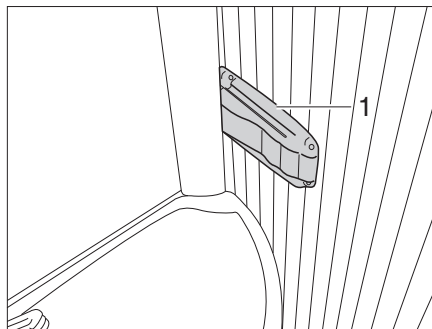

Fig. 377 Vario toilet, locking the shower wall
- Push the latch (Fig. 377,1) right on the edge of the wash basin and lightly pull the wash basin. The wash basin moves forwards with the rear wall.